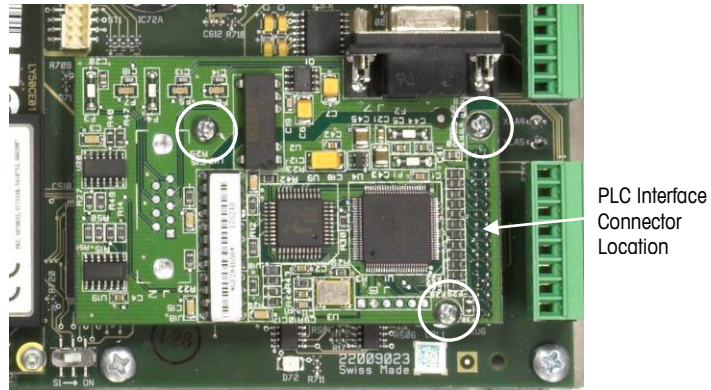

Figure 4-53: PLC Interface Module Installed on Main PCB
To remove a PLC interface module from the main PCB, loosen and remove the three screws (indicated in Figure 4-53) holding it in place, and carefully lift the module off its connector.
3. Install the three screws indicated in Figure 4-53.